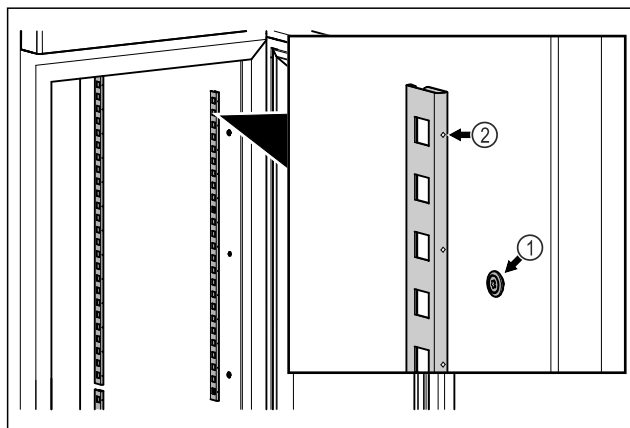

Fig. 15 Example illustration
- Hook the snap strips into the suspension Fig. 15 (1). Mark Fig. 15 (2) must point forwards.